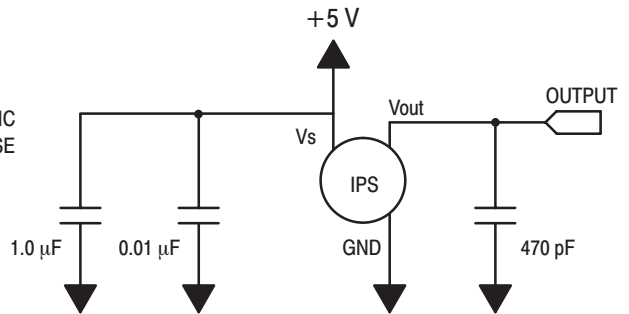
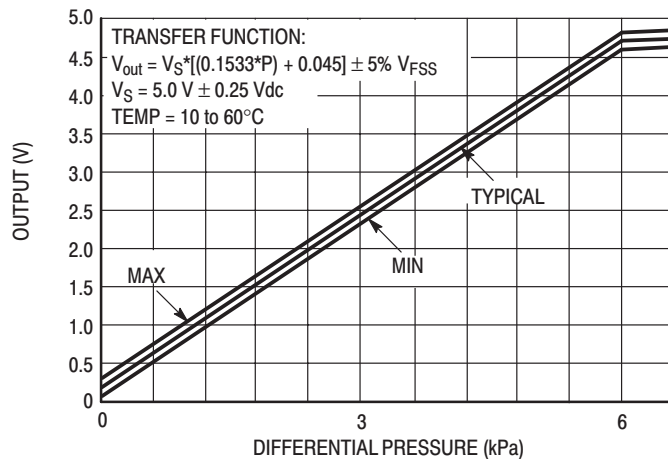

Figure 3. Recommended power supply decoupling and output filtering recommendations. For additional output filtering, please refer to Application Note AN1646.
Figure 4. Output versus Pressure Differential
**OPERATING CHARACTERISTICS** ( $V_S = 5.0$  Vdc,  $T_A = 25^\circ\text{C}$  unless otherwise noted, P1 > P2. Decoupling circuit shown in Figure 3 required to meet electrical specifications.)
Figure 3 shows the recommended decoupling circuit for interfacing the output of the integrated sensor to the A/D input of a microprocessor or microcontroller. Proper decoupling of the power supply is recommended.
Figure 4 shows the sensor output signal relative to pressure input. Typical, minimum and maximum output curves are shown for operation over a temperature range of 10°C to 60°C using the decoupling circuit shown in Figure 3. The output will saturate outside of the specified pressure range.